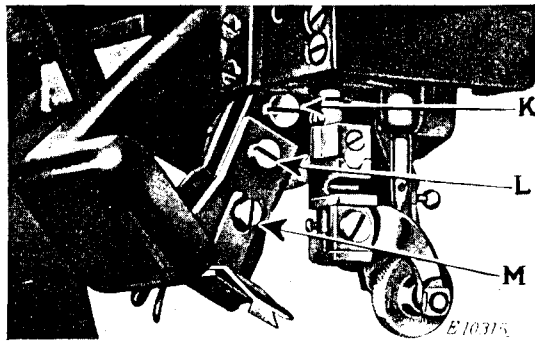

Fig. 24. Adjustments on Trimmer
A small adjustment of the height of the knife cutting edge can be made to accommodate the varying thicknesses of the leathers by turning the screw (M, Fig. 24) in or out, as required.
To move the knife toward you or from you, loosen the screw (L, Fig. 24) and move the knife bracket as required, then tighten the screw (L).
To adjust the knife to the correct height, loosen the screw (K, Fig. 24) and raise or lower the knife bracket holder as required, then tighten the screw (K).